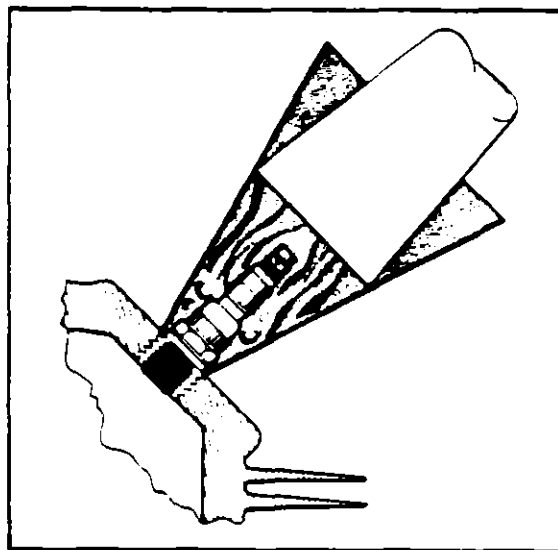

Figure 8A-28. Removing Frozen Spark Plug
d. Removal of seized spark plugs in the cylinder may be accomplished by application of liquid carbon dioxide by a Conical metal funnel adapter with a hole at the apex just large enough to accommodate the funnel of a CO₂ bottle. (Refer to Figure 8A-28.) When a seized spark plug cannot be removed by normal means, the funnel adapter is placed over and around the spark plug. Place the funnel of the CO₂ bottle inside the funnel adapter and release the carbon dioxide to chill and contract the spark plug. Break the spark plug loose with a wrench. A warm cylinder head at the time the carbon dioxide is applied will aid in the removal of an excessively seized plug.